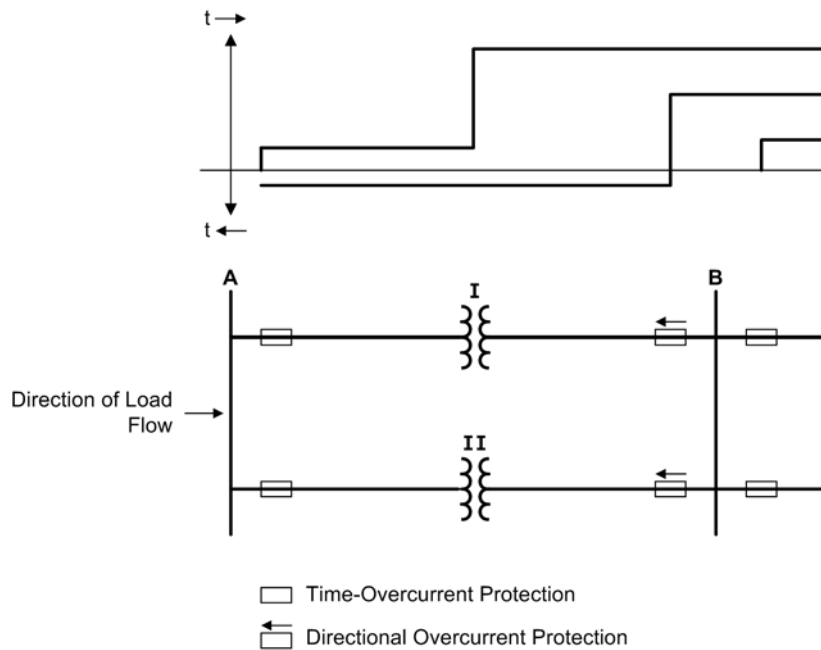

Figure 2-17 Overcurrent protection for parallel transformers
For parallel lines or transformers supplied from a single source (Figure 2-17), the second feeder (II) is opened on occurrence of a fault in the first feeder (I) if tripping of the breaker in the parallel feeder is not prevented by a directional measuring element (at B). Therefore, where indicated with an arrow (Figure 2-17) directional overcurrent protection is applied. Be careful that the "Forward" direction of the protective element is in the direction of the line (or object to be protected). This is not necessarily identical with the direction of the normal load flow, as shown in Figure 2-17.